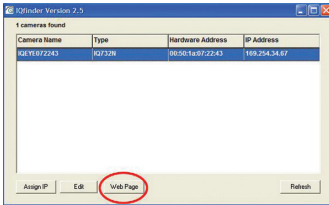
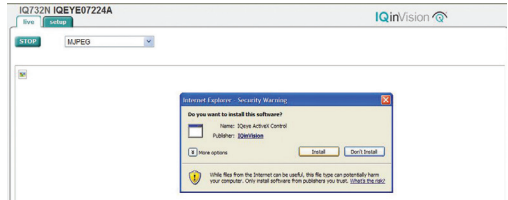

Figure 14
Figure 15
- To view a camera, double click a camera entry or highlight a camera in the list and click the “Web Page” button (Figure 14). The “Live” page will be displayed through the default browser (IE recommended). It is also possible to open Internet Explorer and enter the IP address of the IQeye camera in the address field of the browser. If prompted, install the Active X control (Figure 15).